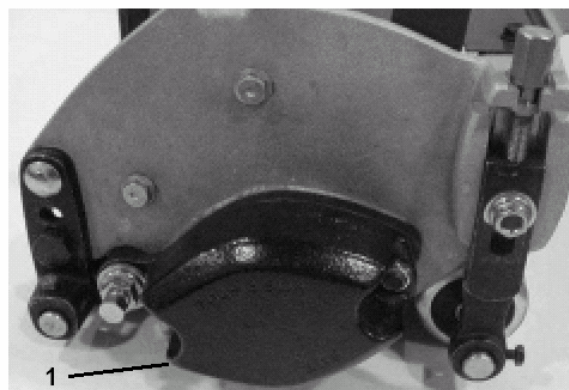

Figure 2
8. Remove the two locknuts securing the counterweight to the right end of the cutting unit (Fig. 2). Remove the counterweight.
- Install the counterweight to the right side of the cutting unit with two lock nuts (Fig. 2).